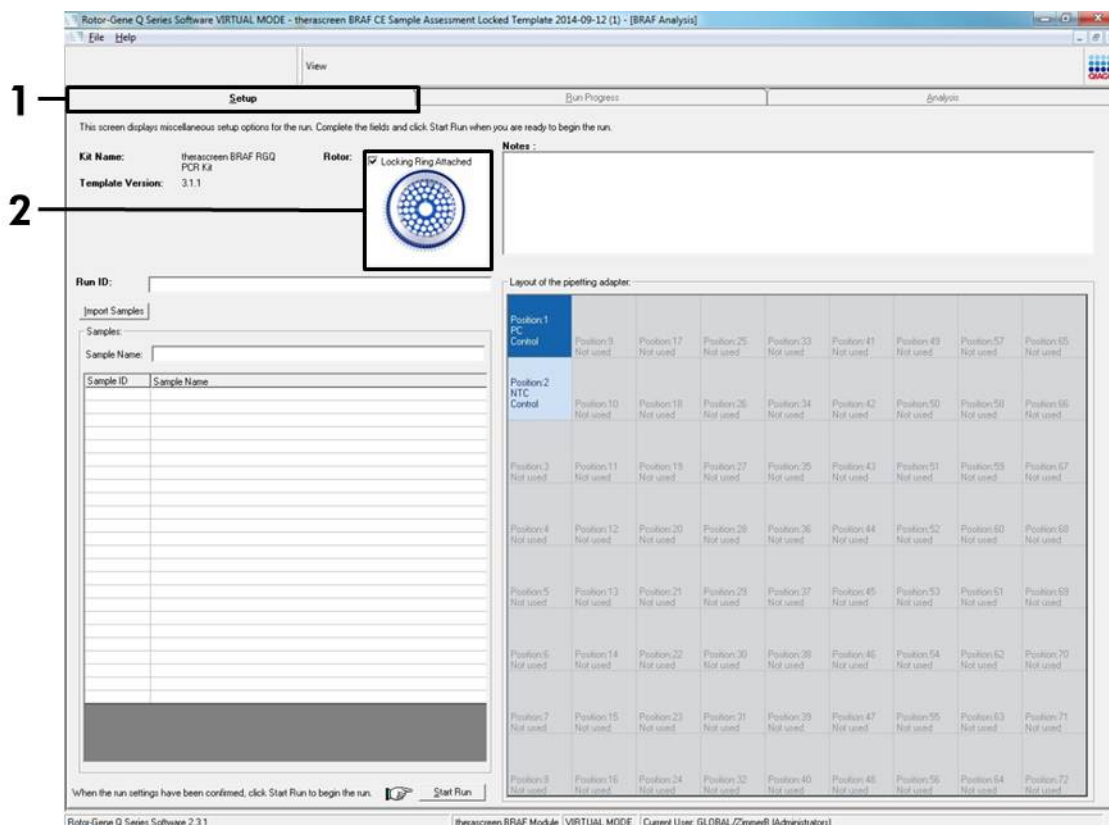

Figure 3. The “Setup” tab (1) and “Locking Ring Attached” box (2).
- The “Setup” tab appears as the default (Figure 3). Ensure that the locking ring is properly attached and check the “Locking Ring Attached” box. Close the lid of the Rotor-Gene Q instrument.